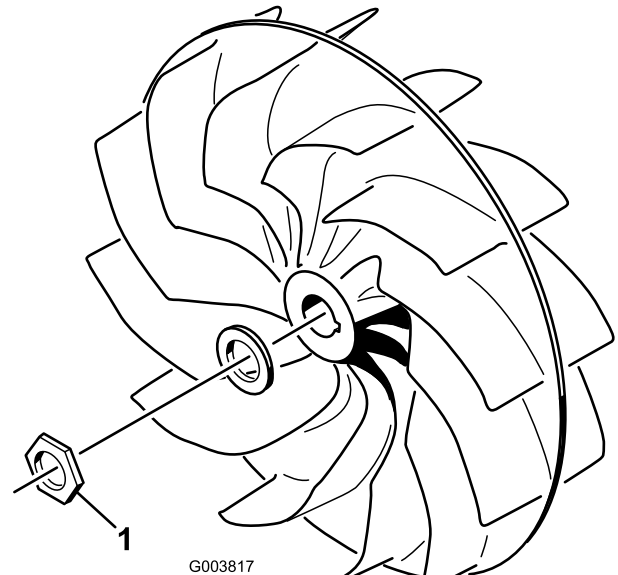

Figure 18
- The fan mounting nut (Figure 18) must be torqued to 500 ft-lb.